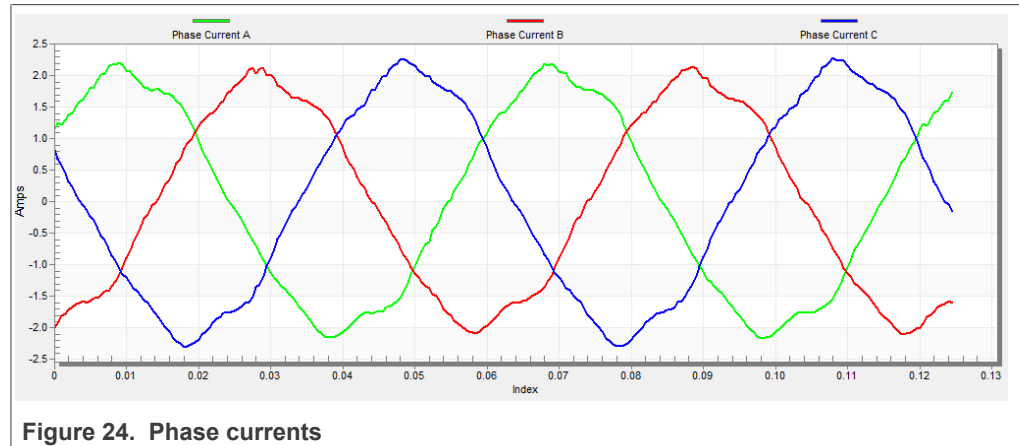

Figure 24. Phase currents
5. The optimal ratio for the V/Hz profile can be found by changing the V/Hz factor directly or using the “UP/DOWN” buttons. The shape of the motor currents should be close to a sinusoidal shape (Figure 24).